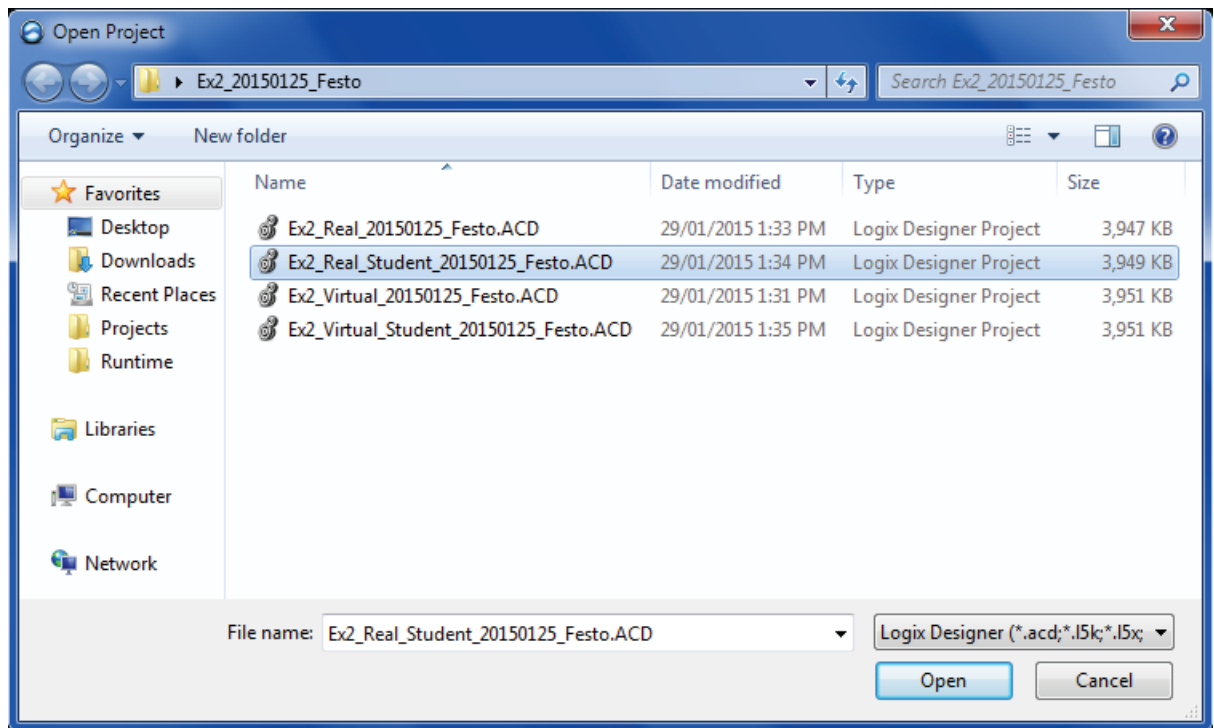

Figure 92. Opening the *Ex2_Real_Student* Logix Designer project.
2. Open the *Ex2_Real_Student* project in Logix Designer (Figure 92).